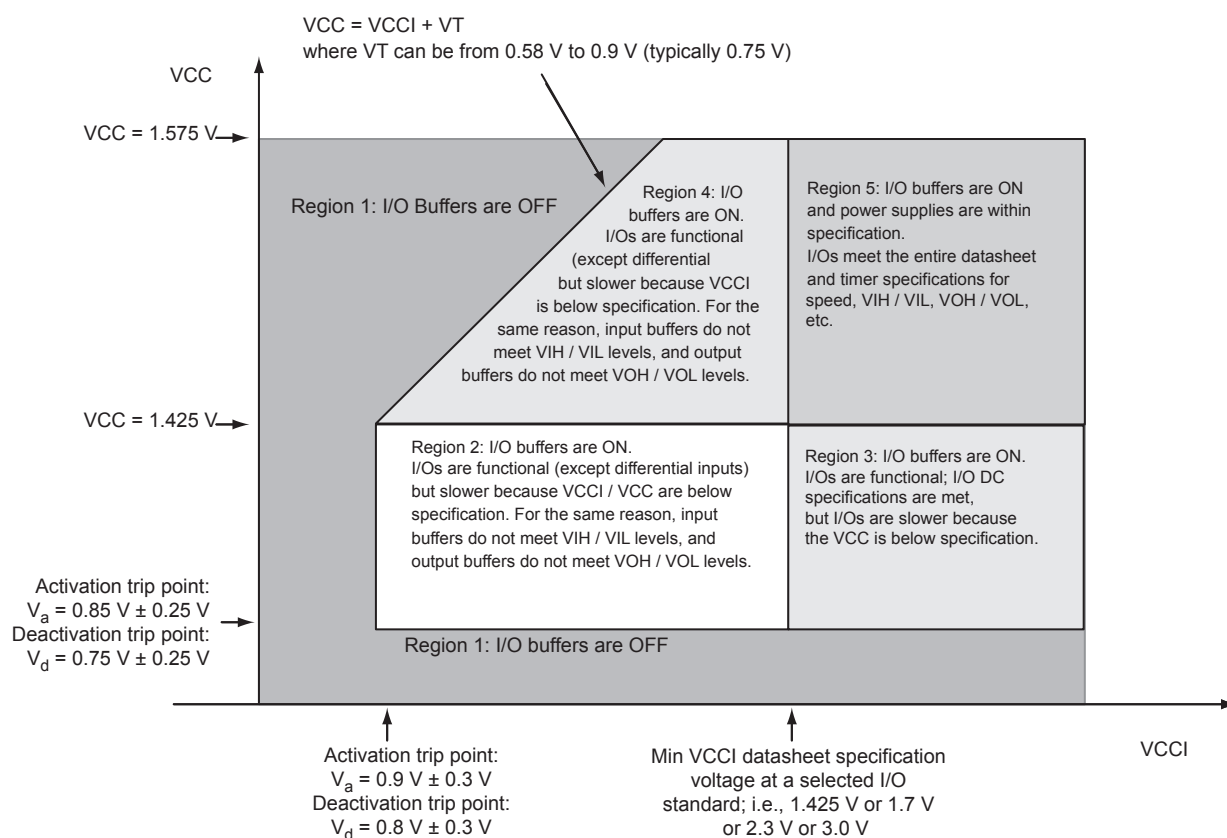
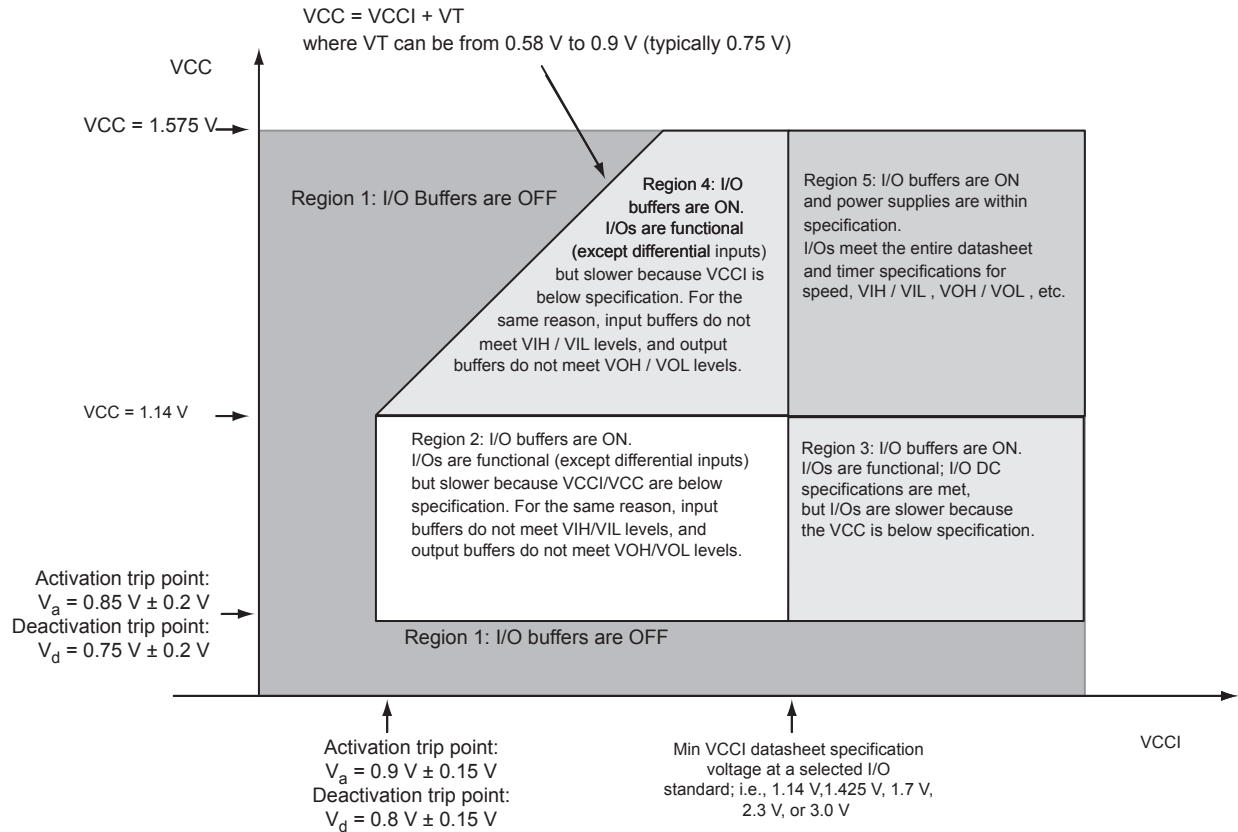

**Figure 2-1 • V5 Devices – I/O State as a Function of VCCI and VCC Voltage Levels**
**Figure 2-2 • V2 Devices – I/O State as a Function of  $V_{CCI}$  and  $V_{CC}$  Voltage Levels**
Sophisticated power-up management circuitry is designed into every ProASIC3 device. These circuits ensure easy transition from the powered-off state to the powered-up state of the device. The many different supplies can power up in any sequence with minimized current spikes or surges. In addition, the I/O will be in a known state through the power-up sequence. The basic principle is shown in Figure 2-1 on page 2-4 and Figure 2-2 on page 2-5.
1. VCC and VCCI are above the minimum specified trip points (Figure 2-1 on page 2-4 and Figure 2-2 on page 2-5).
Microsemi recommends using monotonic power supplies or voltage regulators to ensure proper powerup behavior. Power ramp-up should be monotonic at least until VCC and VCCPLX exceed brownout activation levels. The VCC activation level is specified as 1.1 V worst-case (see Figure 2-1 and Figure 2-2 on page 2-5 for more details).